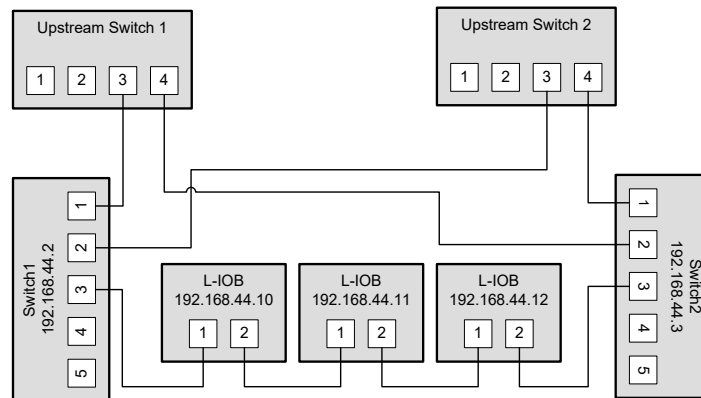

Figure 119: Ring Ethernet topology
**Ring topology:** In this setup, the devices are connected in a chain and each end of the chain is connected to a different upstream switch. This topology requires RSTP. If a single device is powered off, the RSTP will automatically recalculate the spanning tree so that all other devices in the chain are reachable. Only if two devices are power-off at the same time, the devices between them will not have an Ethernet connection. In Figure 119, the L-IOB devices with IP addresses from 192.168.44.10 to 192.168.44.12 are connected in this way. The recommended maximum number of daisy-chained devices is 20.